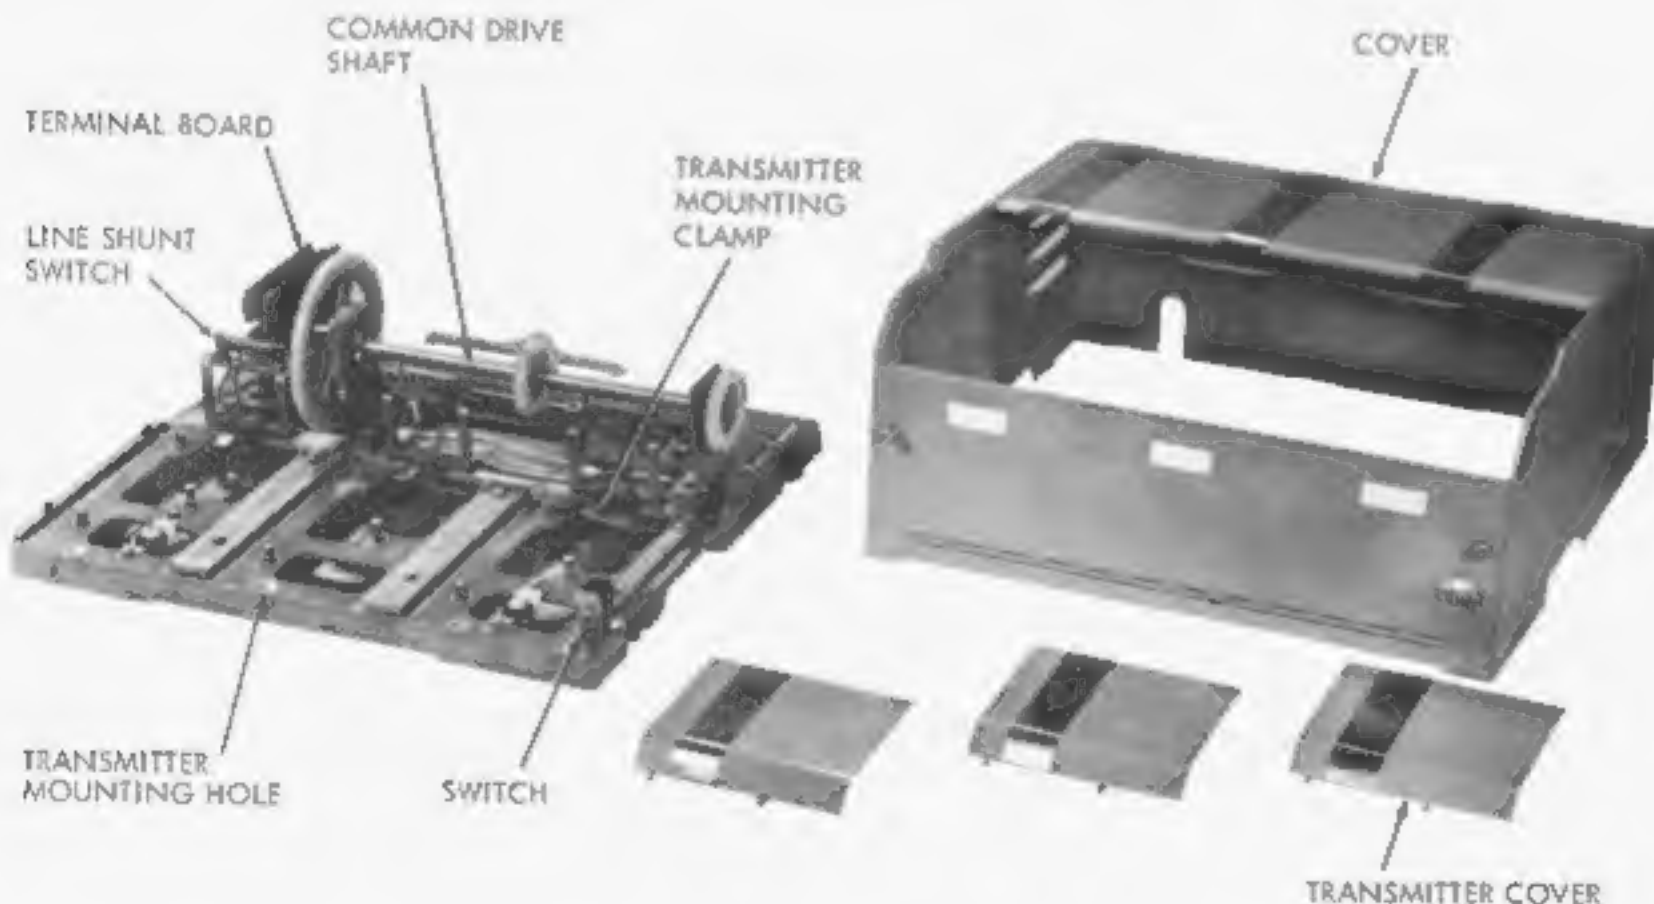

FIGURE 4-5. MULTIPLE TRANSMITTER DISTRIBUTOR BASE (LMXB) AND COVER
5. DISASSEMBLY AND REASSEMBLY OF MULTIPLE MOUNTED TRANSMITTER-DISTRIBUTOR UNITS (Refer to Figures 4-5 and 4-6)